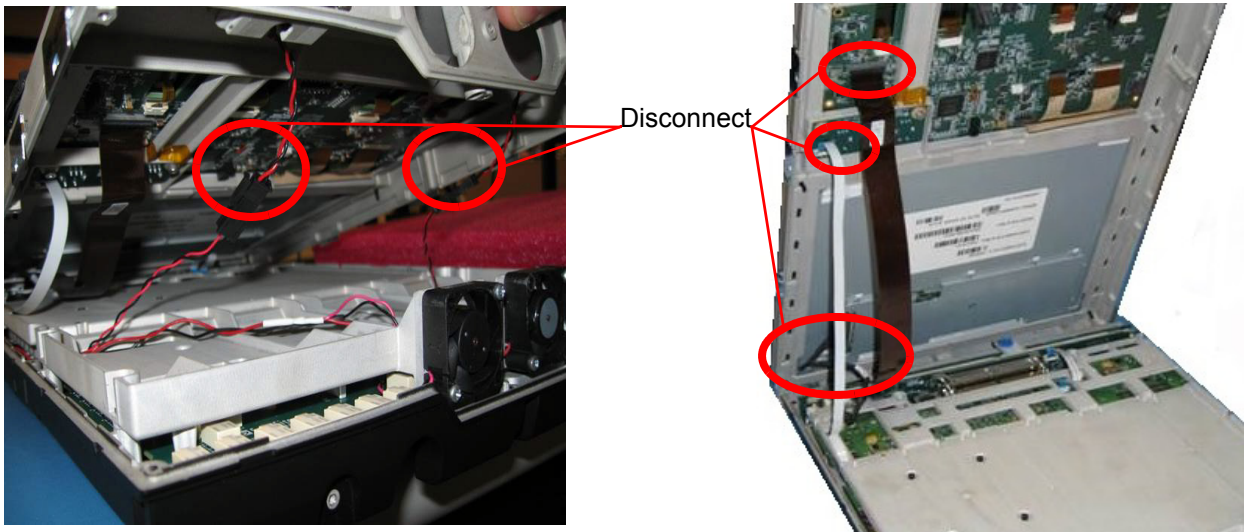

Figure 6.5 User Interface Removal
- 10** Partially lift the UI from the Base as shown in Figure 6.5. Be careful as opening too far may damage speaker wires.
- 1 Place User Interface on Base Assembly as shown in Figure 6.5